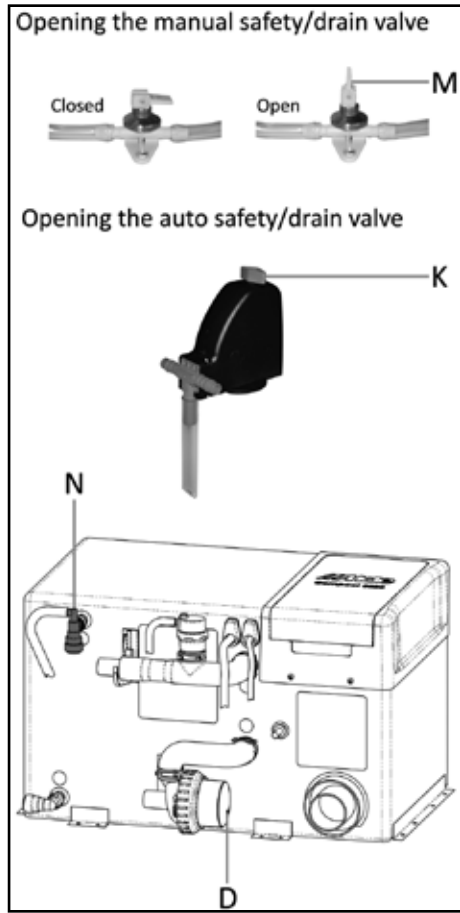

Fig.1
3. Open the safety/drain valve by lifting the yellow tab (Fig.1 [M]) or by turning the blue knob (Fig.1.[K]) 90°.
Check that the breather valve (Fig.1 [N]) is allowing air to enter the hot water cylinder when it is being drained, and that the clear plastic hose is not obstructed.
- Set the 12v inline circulation pump on the side of the boiler to speed 5 (Fig.1 [D]): see page 62, by turning the blue speed dial clockwise, on the face of the pump motor. NB: Speed is not adjustable if using the 12v circulation pump fitted in the expansion tank.